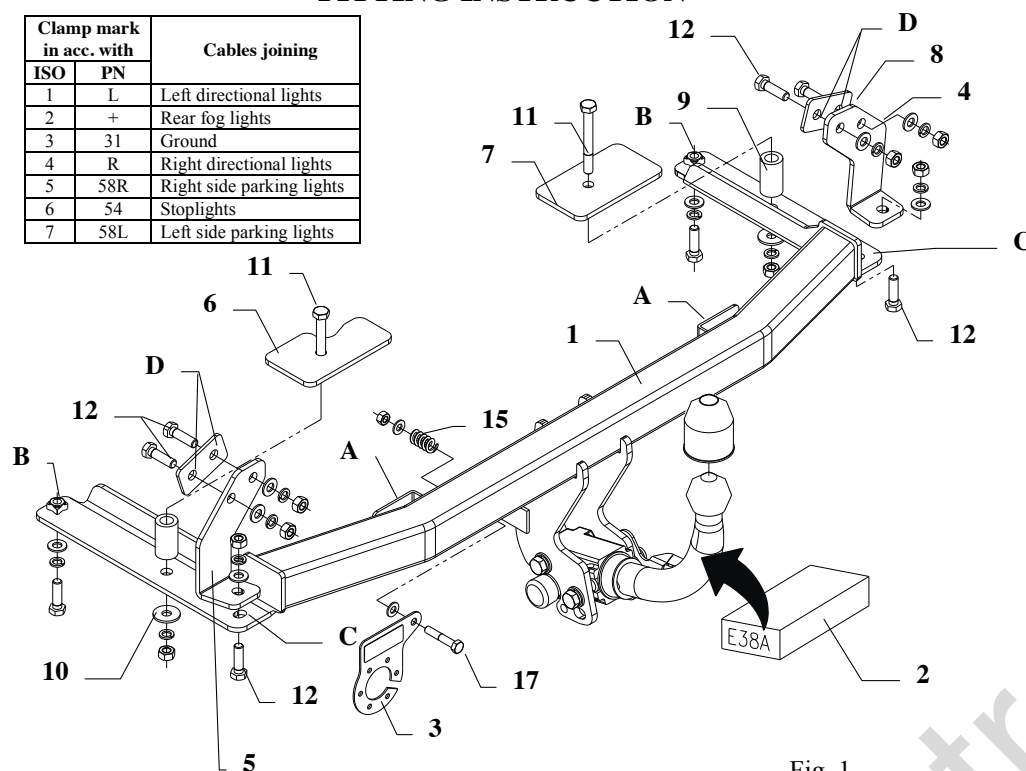

Fig. 1.
6. Position the element (pos. 5) on the left side and element (pos. 4) on the right side and fix it together with element (pos. 8) through the holes (pos. C and D) see the fig.1
8. Fix body of the automat and place tow-ball according to supplied instruction. Note! Remember to place socket plate (pos. 3) as shown on the drawing 1.
9. Fix the socket plate (pos. 3) as shown on the drawing.